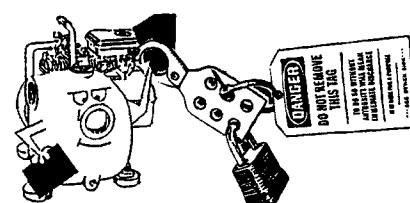

FIG. 11
- **If an unsafe condition cannot be remedied immediately, notify your supervisor and tagout/lockout** the pump on the start switch and/or appropriate, prominent location. (FIG. 11)
BEFORE ANY maintenance work is to be done, a LOCKOUT/TAGOUT standard device and procedure should be implemented. Prior to removal of LOCKOUT/TAGOUT, the equipment must be fully operational and all personnel accounted for. Except in cases of emergency, the removal of the LOCKOUT/TAGOUT should be done **ONLY** by the initiating person prior to the return to start-up (see page 12, Fig. 11).
NEVER perform any work on the equipment unless authorized to do so. (FIG. 11) Before performing any maintenance or repair work, consult the manufacturer's instruction manual for recommended procedures.